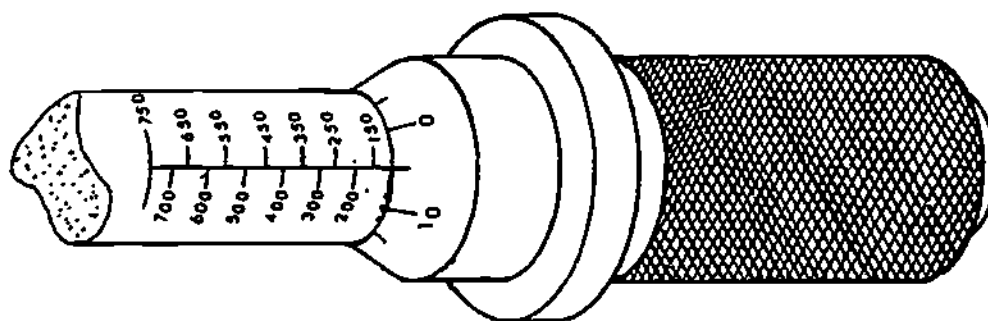

Figure 4.
24. Using the procedure, steps 16 through 19, set the wrench at 105 inch-pounds. Check the accuracy of your setting by referring to the illustration below (figure 4).